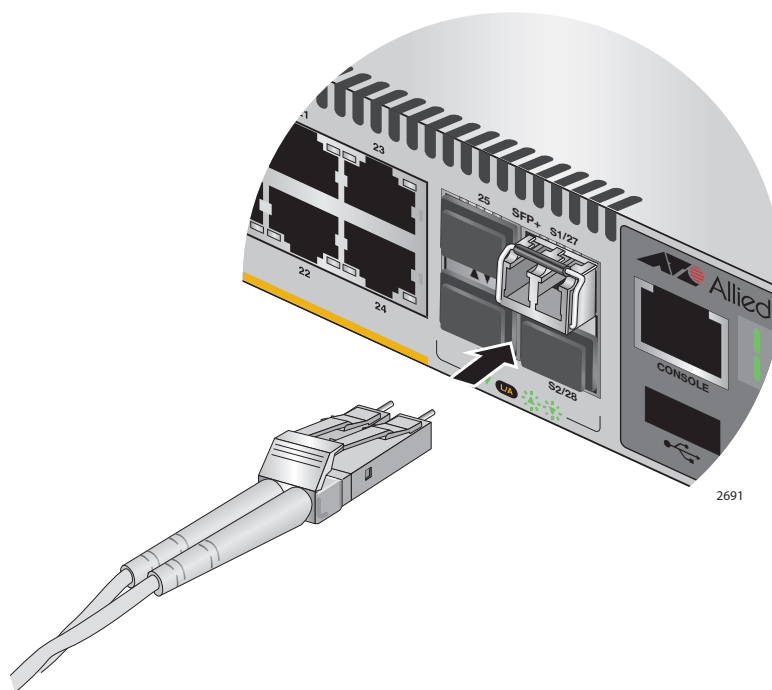

Figure 59. Connecting the Fiber Optic Cable to the Stacking Transceiver
6. Connect the fiber optic cable to the transceiver, as shown in Figure 59 on page 100. The connector on the cable should fit snugly into the port, and the tab should lock the connector into place.